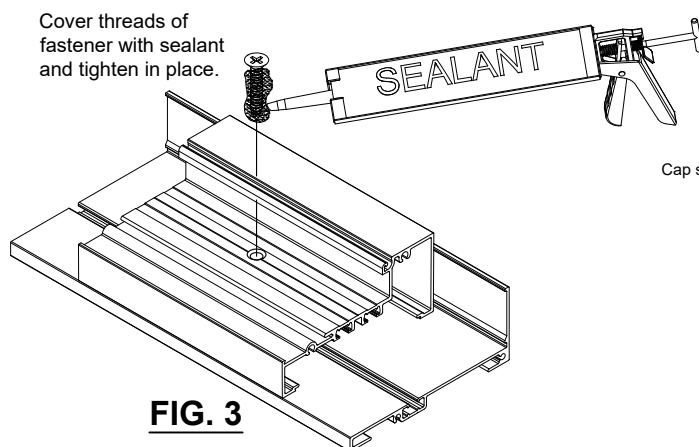

FIG. 3
- K. Apply sealant to threads of fastener and secure frame to sill flashing. See **Fig. 3**.